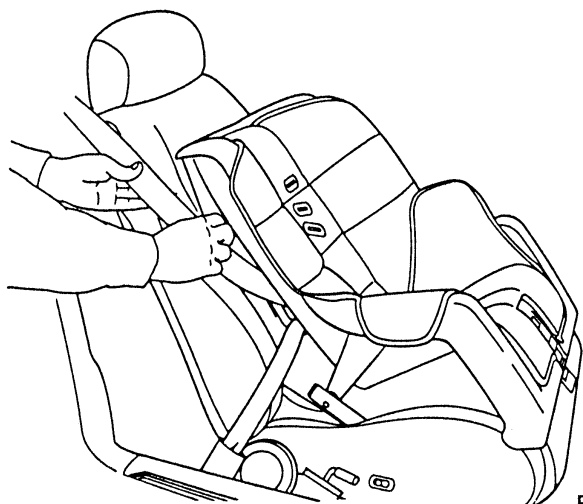

Figure 5
6. Allow the belt to retract. A clicking sound will be heard as the belt retracts. This indicates the retractor is in the automatic locking mode. Pull on the lap belt portion across the child seat towards the buckle and continue to pull up on the shoulder belt portion while pushing down on the child seat allowing the shoulder belt to retract, to remove any slack in seat belt. See Figures 5 and 6.